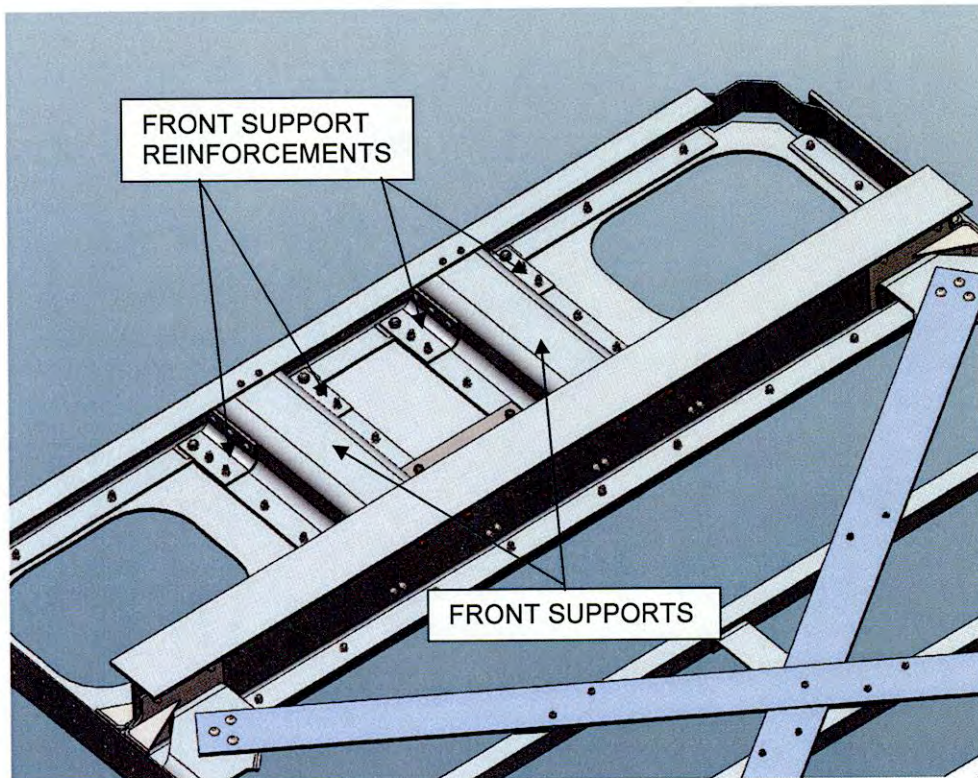

Figure 6
4. Remove the front support reinforcements and front supports (Fig. 6).